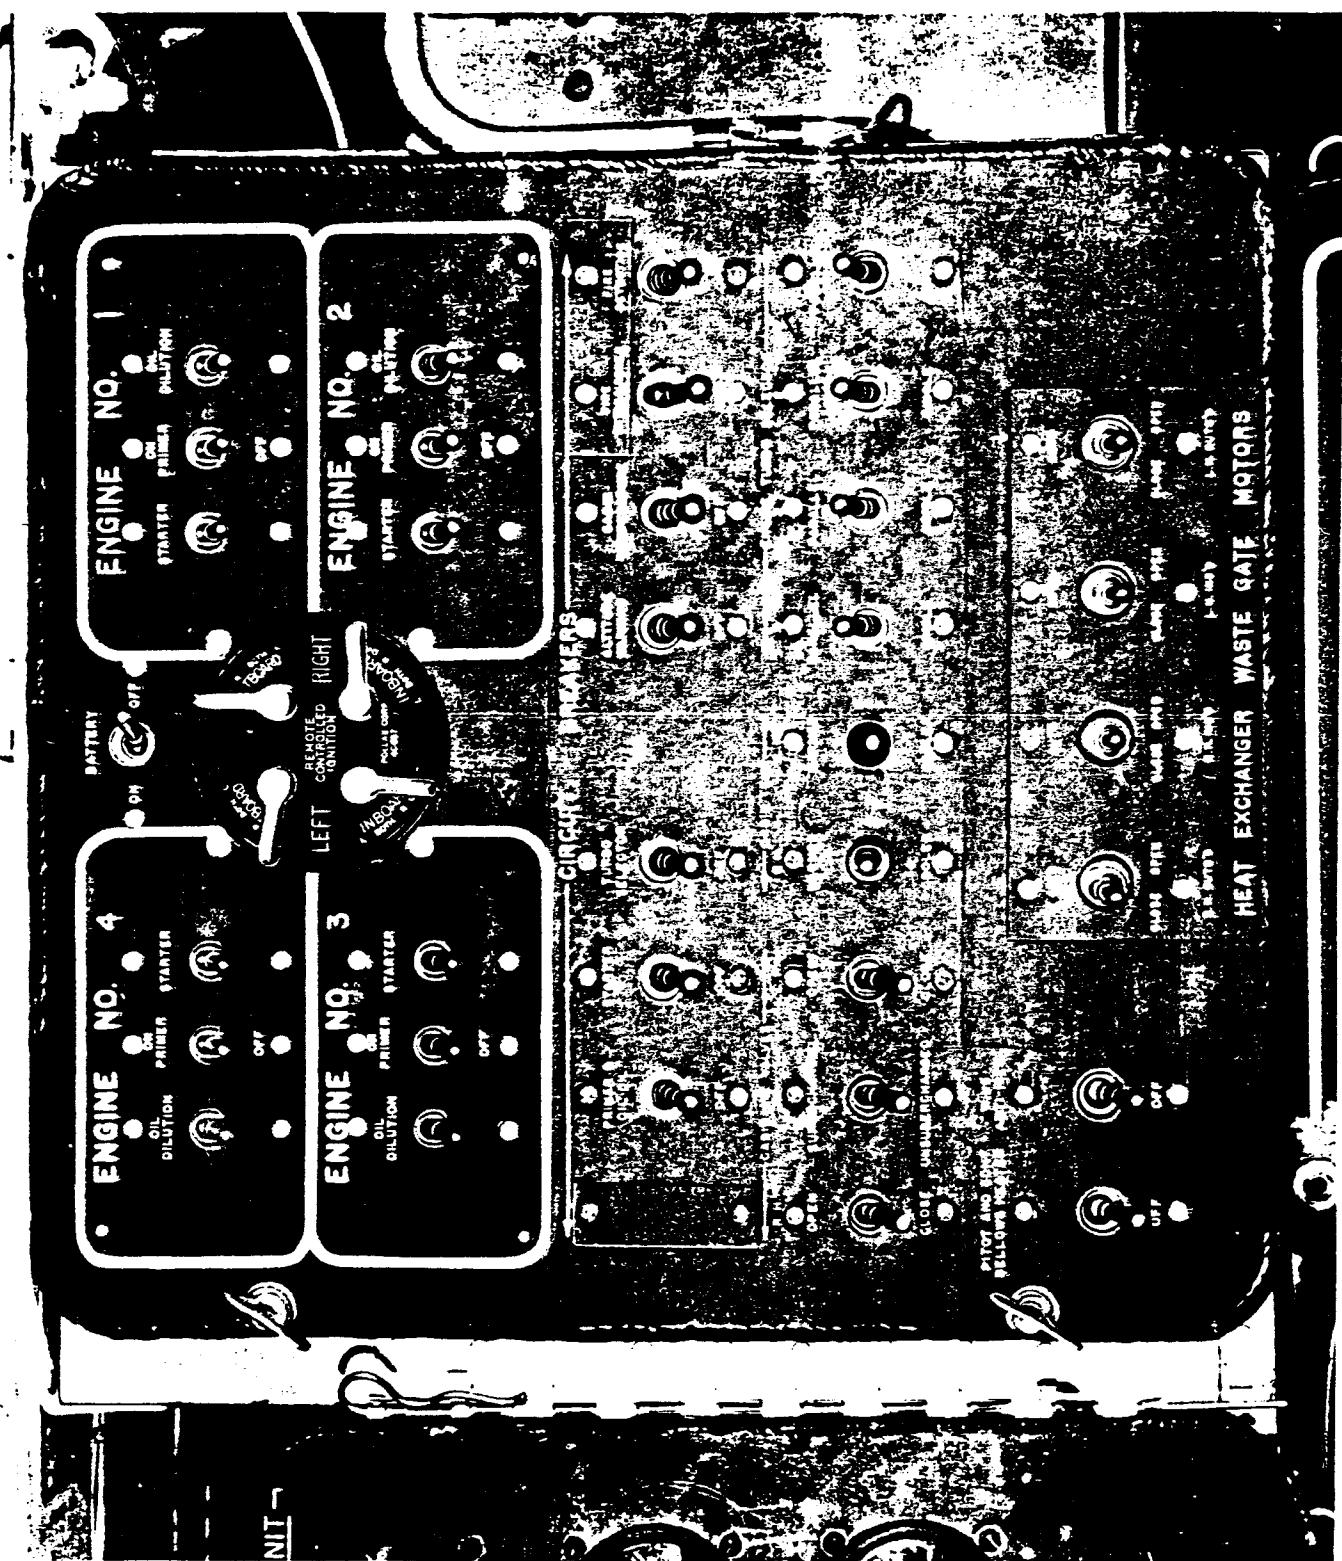

Figure 17. Engineer's Upper Electrical Control Panel
g. ENGINE TURBO SELECTOR SWITCHES.- These four switches are located on the engineer's upper control panel. (See figure 17.) In the "PARALLEL" position all turbos operate and in the "SINGLE" position one of each pair of turbos is rendered inoperative. The "SINGLE" position is used to correct turbo pulsation or collapse. Normally the switches are kept in the "PARALLEL" position.
m. HEAT EXCHANGER WASTE GATE MOTOR SWITCHES. (See figure 17.) - These switches are used to control the temperatures of the exhaust gases to the turbosuperchargers. Normally for ground operations the switches are held to the "OPEN" position to open the waste gates and in flight they are placed on "AUTOMATIC." Manual control is accomplished by holding the switches to the "OPEN" or "CLOSE" position momentarily and then returning the switches to the center (off) position. The center position being off, the waste gates will remain in the po-
n. OIL DILUTION SWITCHES. - These switches, figure 17, have two positions; "OFF" and momentary "ON." In the "ON" position diluted oil is diverted into the oil tank hoppers rather than throughout the oil tanks. In the "OFF" position engine oil is automatically diverted directly to the hopper as required by the oil temperature.
o. PRIMER SWITCHES.- A primer switch, spring loaded to the "OFF" position, is provided for each engine. (See figure 17.)
p. IGNITION SWITCHES.- Individual ignition switches with provisions for checking both the left and right hand magnetos of each engine are located on the engineer's upper control panel. (See figure 17.) An emergency switch is installed on the pilot's pedestal that will cut the ignition for all four engines when it is pulled out. (See figure 7.)
q. STARTER SWITCHES.- Switches for direct cranking starters are located on the engineer's upper control panel, figure 17. The switches are spring loaded to the "OFF" position.